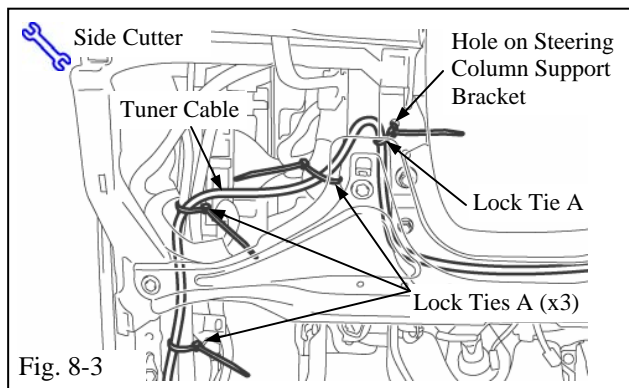

Fig. 8-3
(d) Secure the tuner cable with four (4) lock ties A. (Fig 8-3)
(1) Secure the tuner cable to the hole on the steering column support bracket using the one (1) lock tie A as shown.